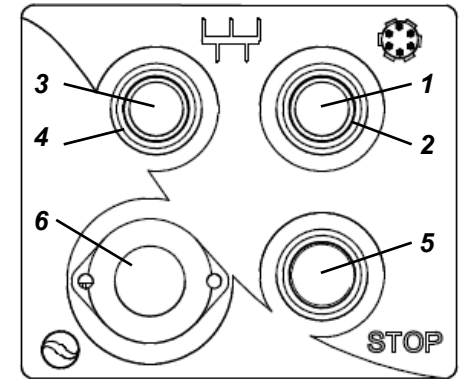

Fig. 3.1.1
Connect the plug to the mains and press the start button (3 Fig. 3.1.1). The machine gets enable din extruding mode; ensure the spiral direction of rotation is counter-clockwise.
5.3 - Checking the effectiveness of the emergency button (5 fig. 3.1.1)
When machine is connected to the mains and tools are in movement, press the shut down button (5 Fig. 3.1.1). The machine must shut down.
1 - Start mixer button (1 fig. 3.1.1)
2 - When the button is pressed, the LED gets lit (2 fig. 3.1.1) and it will remain so throughout the mixing process.
3 - Start extruding button (3 fig. 3.1.1)
When the button is pressed, the LED gets lit (4 fig. 3.1.1) and it will remain so throughout the extruding process.